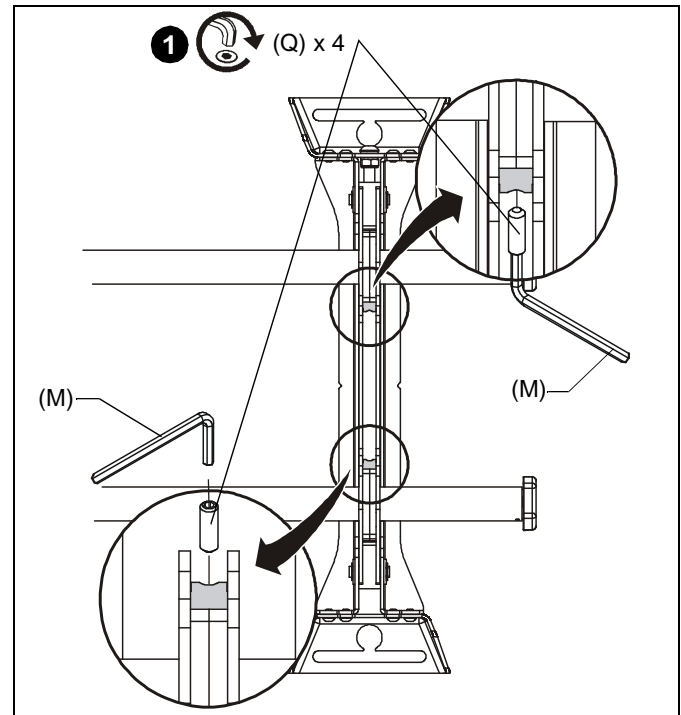

Figure 4
1. Lock rails into place using two 1/4-20 x 3/4" set screws (Q) on mount upright (Z) and the 1/8" hex key (M). (See Figure 4)
**NOTE:** To easily install upper set screw against upper rail, place set screw (Q) onto hex key (M), and feed up into hole while turning to tighten.